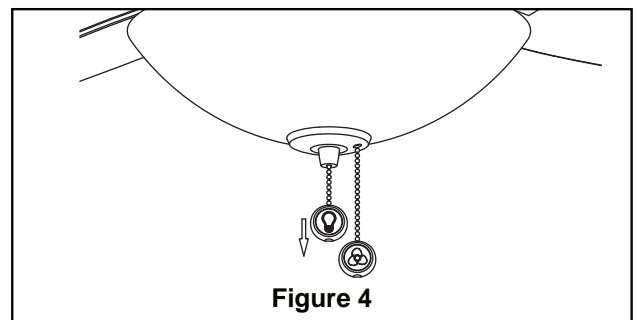

Figure 4
- 4. Check the operation of the light by gently pulling on the light pull chain. (Figure 4)